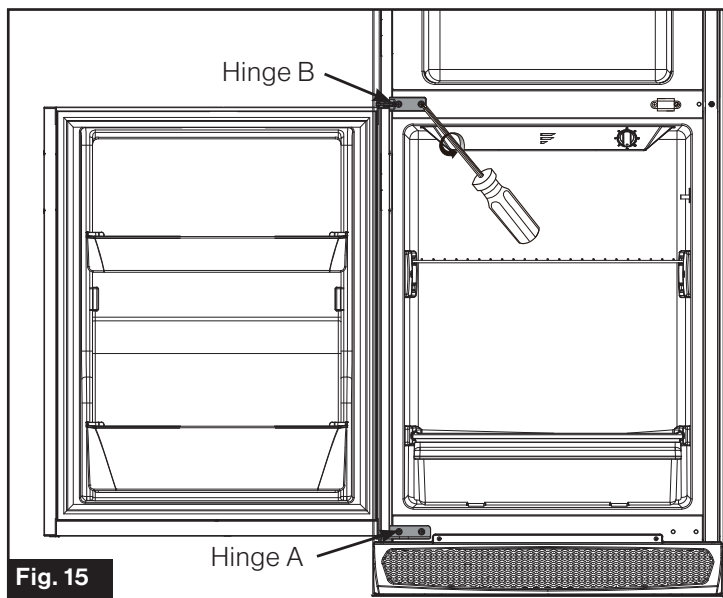

Fig. 15
7. Fix the Hinge A at the bottom left. Reinstall the Refrigerator Door and fix the Hinge B to the left side of the middle beam. (Fig. 15)